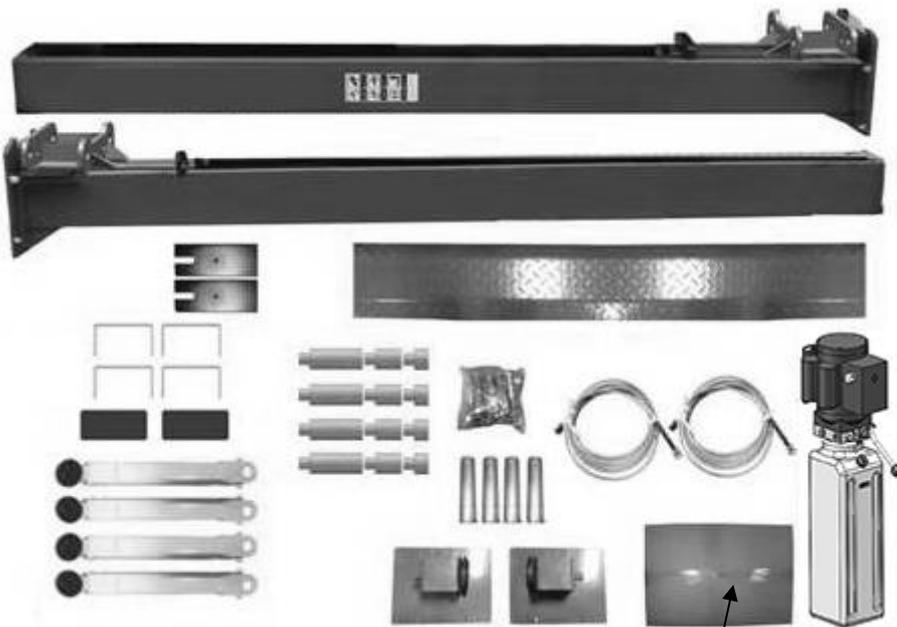

Fig. 8
4. Move aside the parts and check the parts according to the shipment parts list. (See Fig. 8, Fig. 9).